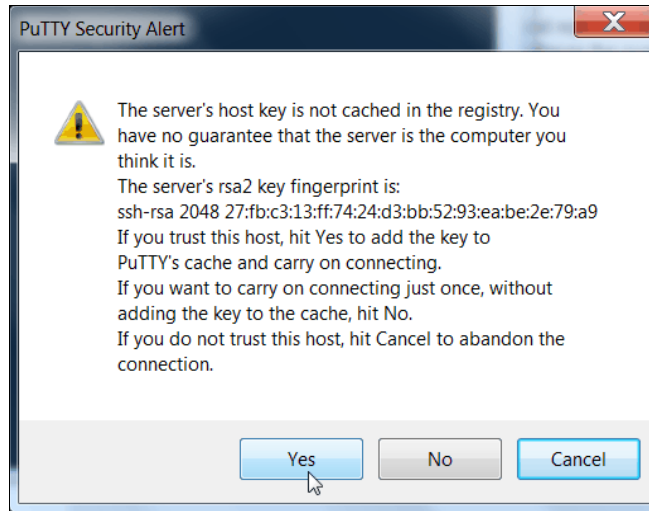

Figure A-19 Confirm the security alert
8. If a PuTTY Security Alert window opens. Confirm it by clicking **Yes** (Figure A-19 on page 774).